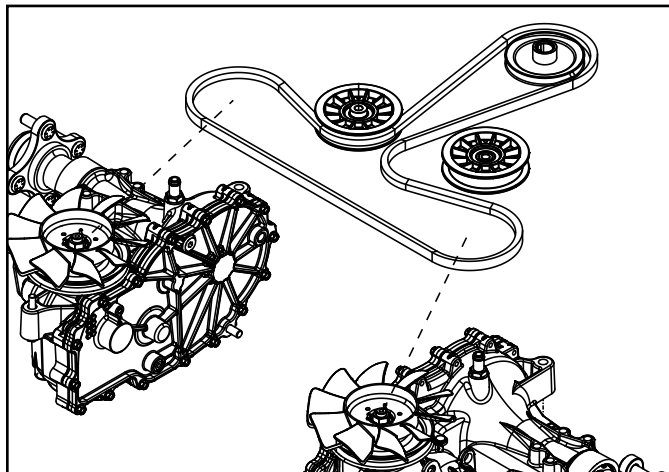

Fig. 083
6. Install the hydro drive belt and verify proper routing (Fig. 083).